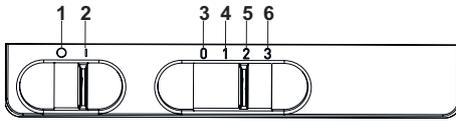

Fig. 17
- 1.** ➤ Bring to this position to turn off the lamp (Fig. 17).
- 2.** ➤ Bring to this position to turn on the lamp (Fig. 17).
- 3.** ➤ Bring to this position to turn off the lamp (Fig. 17).
- 4.** ➤ Bring to this position when you want to operate the product in 1. speed (Fig. 17).
- 5.** ➤ Bring to this position when you want to operate the product in 2. speed (Fig. 17).
- 6.** ➤ Bring to this position when you want to operate the product in 3. speed (Fig. 17).